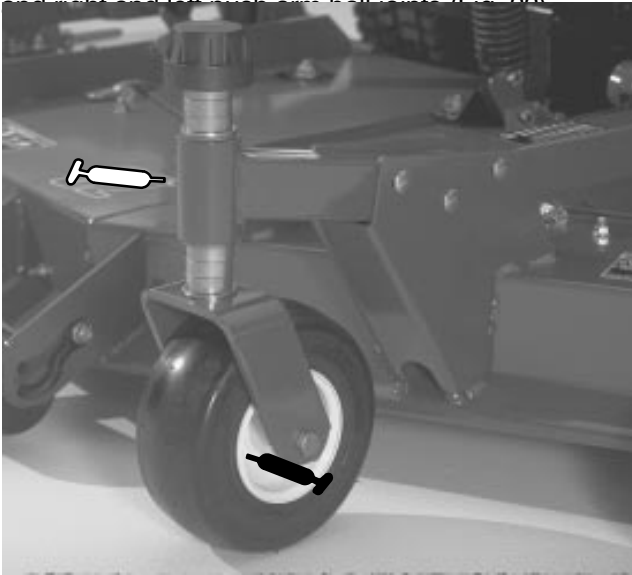
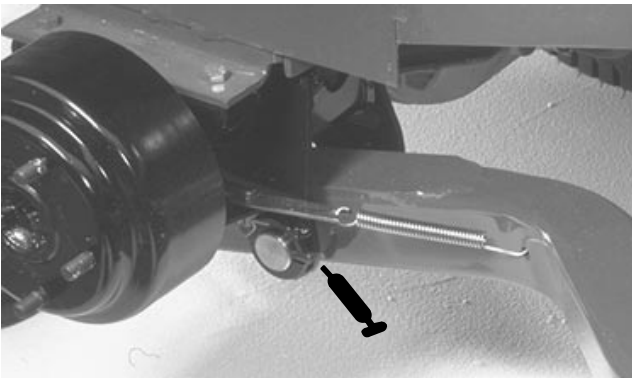
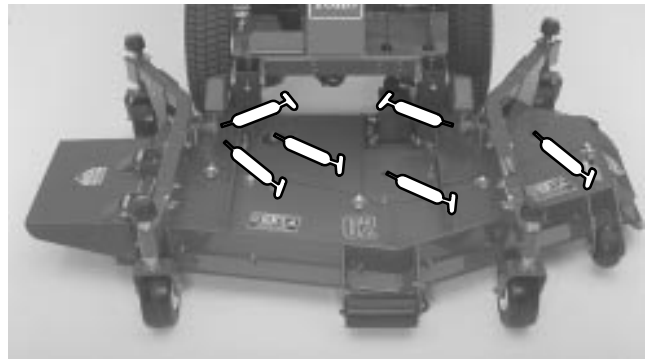

Figure 20
Figure 21
Figure 22
GREASE BEARINGS, BUSHINGS AND GEAR BOX (Fig. 20–23)
1. The cutting unit has bearings and bushings that must be lubricated, and these lubrication points are: front castor spindle bushings (Fig. 20); front and rear castor wheel bearings (Fig. 20); right and left lift arm pivot pins (Fig. 21); blade spindle bearings (Fig. 22);